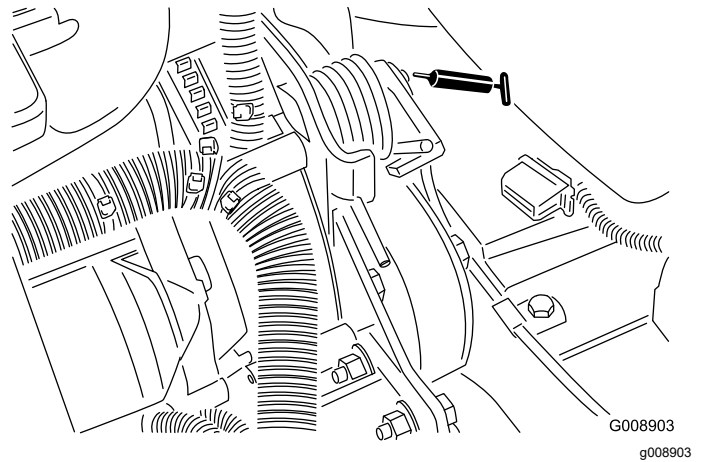

Figure 54
- Belt tension pivot (Figure 54)